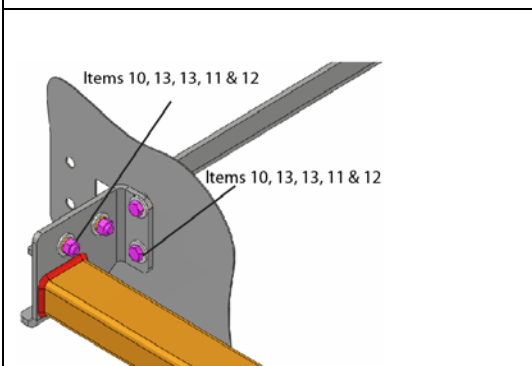

Figure 4 – Secure towbar to chassis inserts and rear panel.
5. Loosely secure the towbar assembly (item 1) to the LH and RH inserts (items 3 and 4) and also to the rear panel, using M12 x 1.25 x 40 bolts, flat washer, spring washer and nut. Refer to Figure 4.